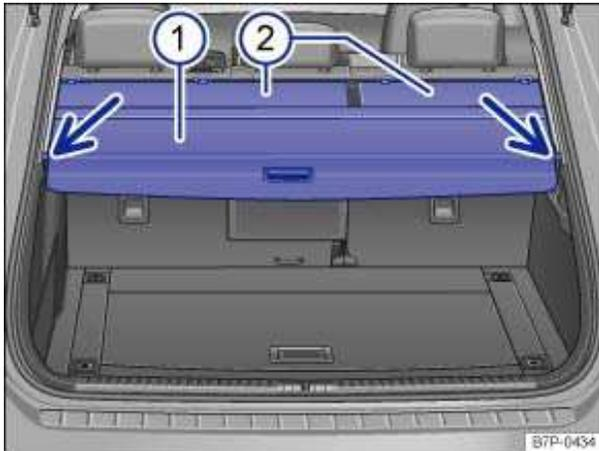
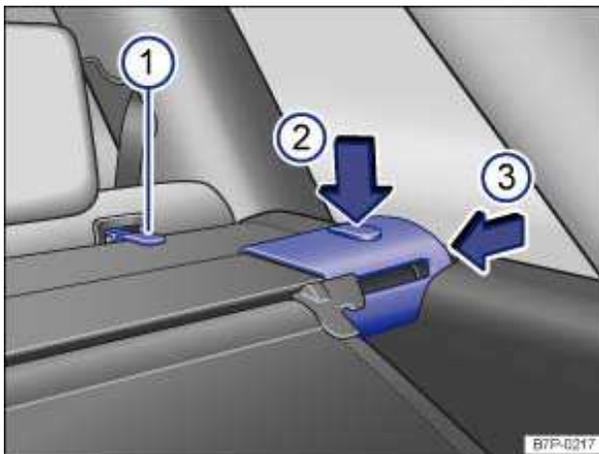

Fig. 100 In the luggage compartment: Closed luggage compartment cover.
Fig. 101 In the luggage compartment: Removing the luggage compartment cover.
- Grasp the luggage compartment cover ⇒ fig. 100 \(1\) by the handle and pull it slightly to the rear.
- If there is a gap cover (2), unhook it from the fastening eyes on the rear seat backrests ⇒ fig. 101 (1).
- Push down release button (2) and push in the end parts of the luggage compartment cover (3).
- First fit the luggage compartment cover ⇒ fig. 100 (1) into the left-hand slot.
- Push down release button ⇒ fig. 101 (2) and push in the end parts of the luggage compartment cover (3).
- If there is a gap cover ⇒ fig. 100 (2), hook it back into the fastening eyes on the rear seat backrests ⇒ fig. 101 (1).